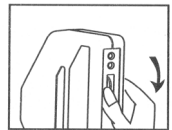

Fig.3
- 3.1.1 Hold the detector as shown in Fig.3. and rotate knob B (Voltage/Metal Detector) fully downwards. Move the selector switch to the Voltage/Metal Detection position, the green LED will illuminate immediately. Make sure that the unit is far away from any metal or current carrying conductor.